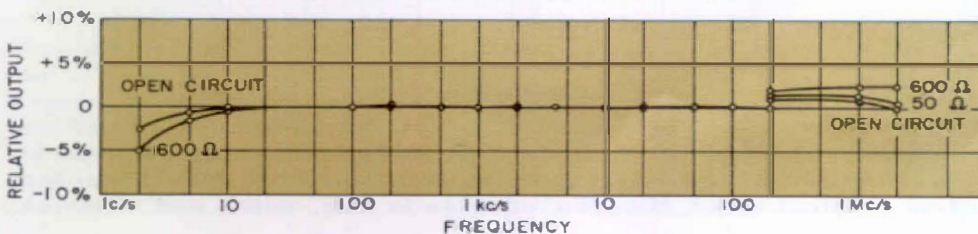

Figure 5. Typical output voltage-vs-frequency characteristics for various load impedances.
The 20-volt, open-circuit output behind 600 ohms is adjustable over approximately a 50-dB range by means of a constant-percentage-resolution attenuator. The output is essentially constant with frequency (Figure 5), a convenience for frequency-response
**Frequency Characteristic:**  $\pm 2\%$ , 20 c/s to 200 kc/s, open circuit or  $600\text{-}\Omega$  resistive load. (See Figure 5).